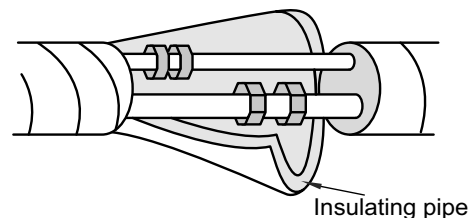

Fig. 7
- (4) Wrap the indoor pipe and the joint of the connection pipe with insulating pipe, and then wrap it with tape. (As shown in Fig. 7)